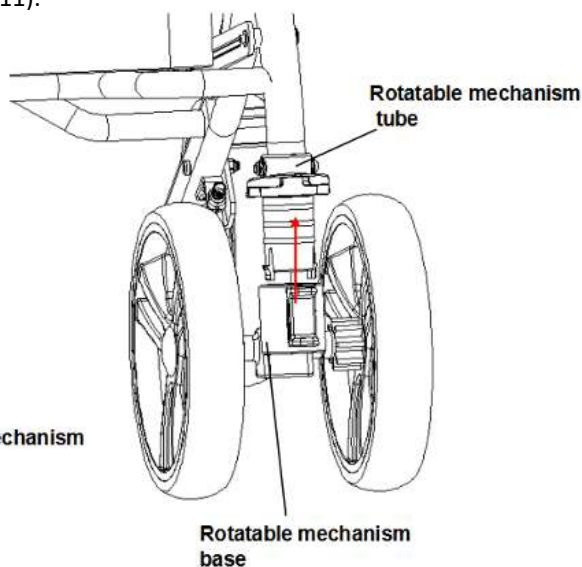

Figure 11
2. Removing the front wheel: Use your thumb and index finger to press the notch located beneath the swivel mechanism tube, compressing it inward until it becomes narrower than the inner diameter of the swivel base tube. With your other hand, pull the base of the swivel mechanism downward. Once the base is completely detached from the swivel tube, the front wheel is removed (as shown in Figure 11).